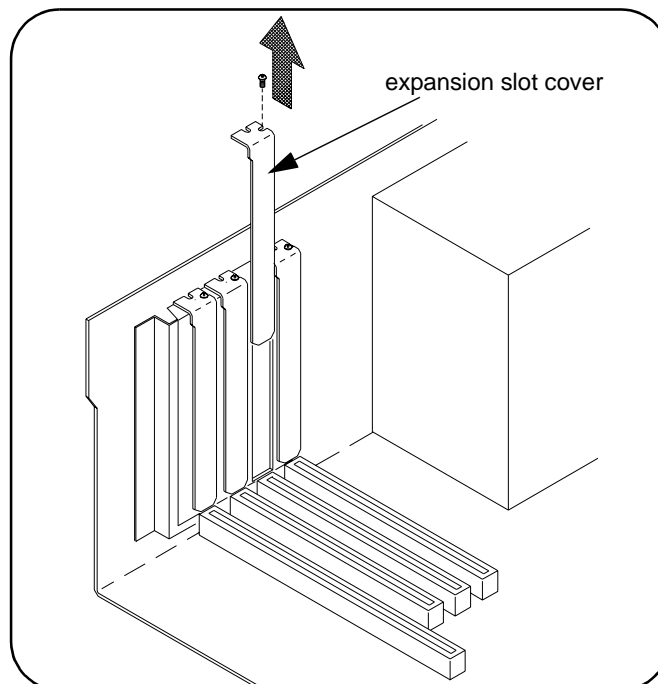

Figure 2-3. Removing the PC Expansion Slot Cover.
C. Remove the corresponding expansion slot cover from the computer chassis (Figure 2-3).